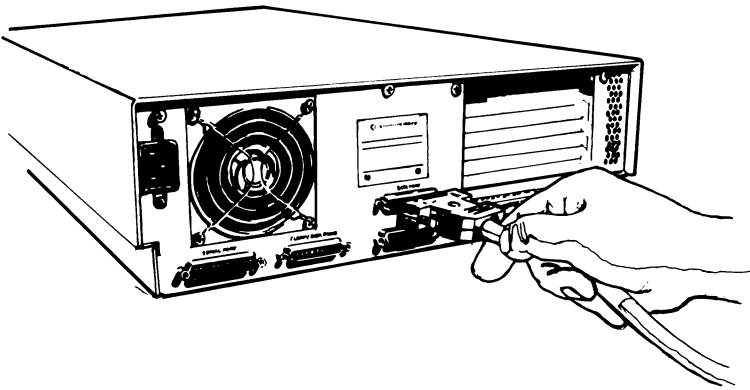

Figure 5
- 3) *Connect the tape drive's SCSI Cable to the SCSI port in the rear of the Amiga 3000 (Figure 5).*